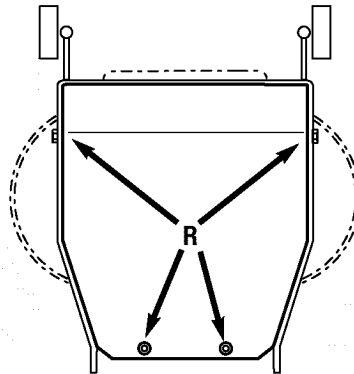

Figure 5-5: Belt cover removal.
**2. Remove four screws (R, Figure 5-5) and remove cover.**